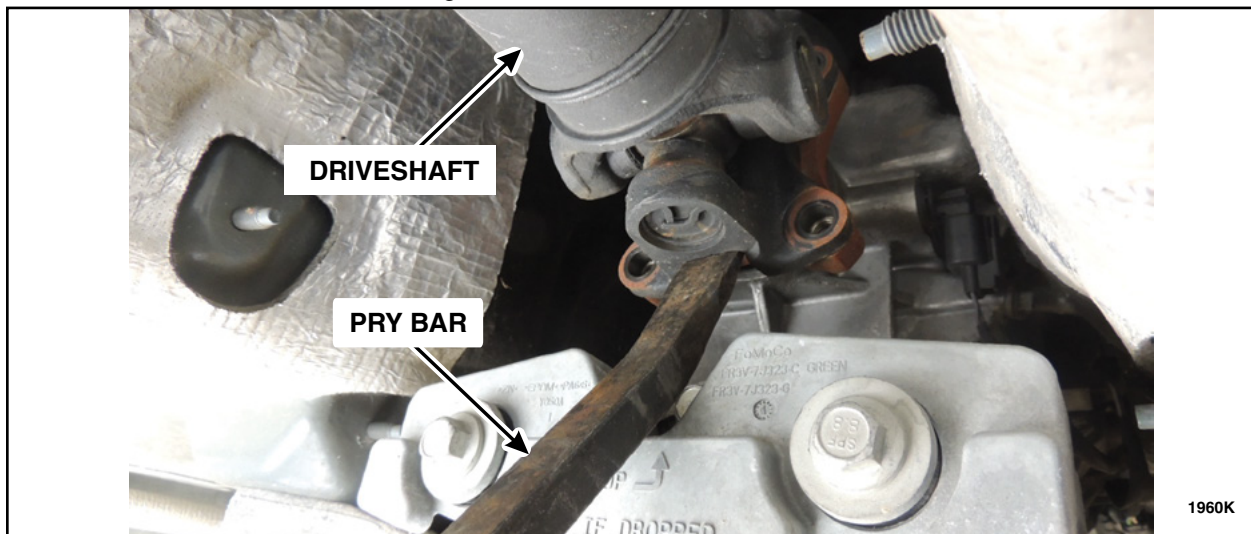

FIGURE 10
11. Pry the driveshaft off of the transmission flange and rest the driveshaft on the transmission crossmember. See Figure 10.